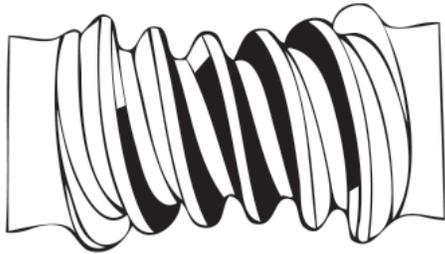
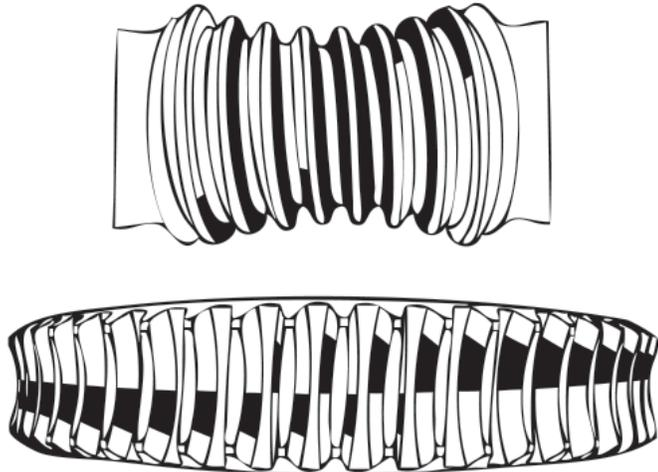

Figure 5
Figure 9
4. The gearset must be positioned properly at assembly to obtain the desired gear contact between the worm threads and gear teeth. If the gearset is properly aligned, contact will be approximately as shown by the shaded portions in figures 5 or 9, depending on ratio. The correct pattern is symmetrical with respect to the centerline of the worm and the gear but will vary with ratio. The correct pattern for ratios 5:1 to 25:1 are shown in figures 5 and 6, and for ratios 30:1 to 70:1 see figures 9 and 10.